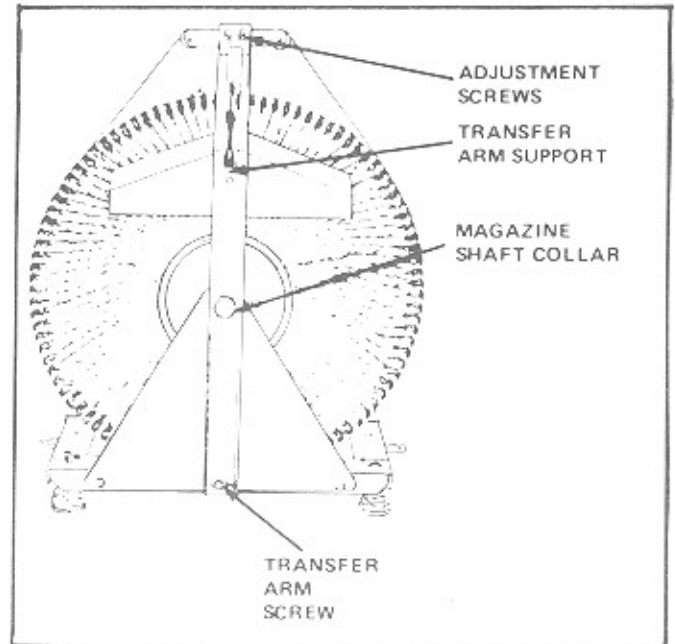

Figure 6-13. Magazine Belt Adjustment
1. Loosen the two adjustment screws shown in figure 6-13.